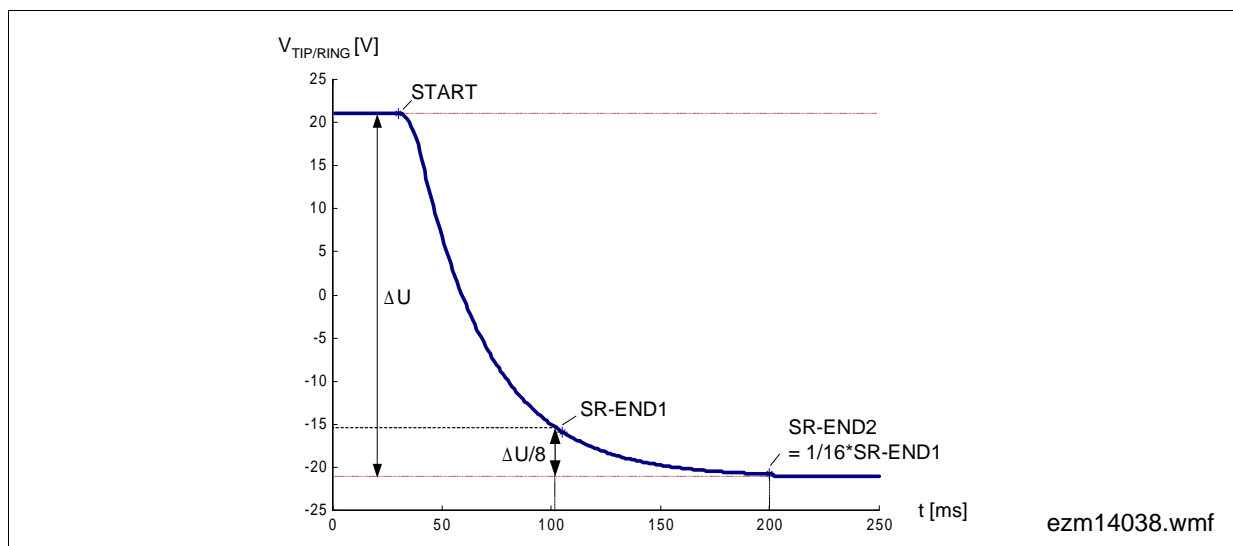

Figure 30 Soft Reversal (Example for Open Loop)
Some applications require a smooth polarity reversal (soft reversal), as shown in Figure 30. Soft reversal helps to prevent negative effects like non-required ringing. Soft reversal is deactivated by the SOFT-DIS bit in register BCR2.
- SOFT-DIS = 0 Soft reversal is performed. Transition time (time from START to SR-END1, see Figure 30) is programmable by CRAM coefficients, default value 80 ms.